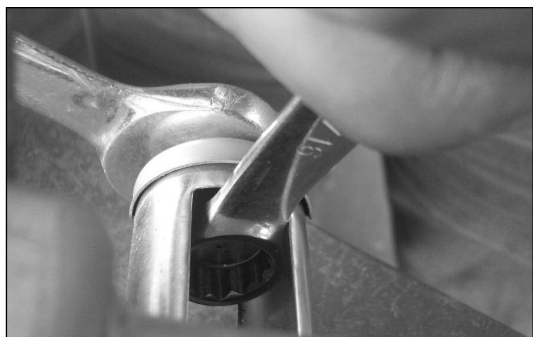

Fig 18
24. Use the wrench supplied with this kit to hold the orifice in the searing burner, then use adjustable wrench to disconnect the elbow. (See Fig. 18)
26. Replace the NG orifice on the searing burner. Use the wrench supplied with this kit to hold the orifice in the searing burner, then use the adjustable wrench to reconnect the elbow. Make sure the elbow is facing down.. (See Fig. 18)